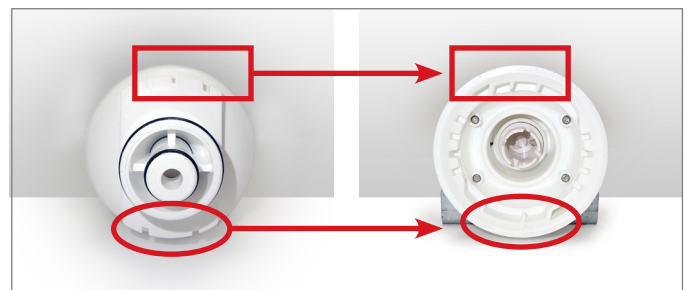

FIG. 4. Align the water filter's slots with the corresponding teeth in the filter head.
8. Insert the water filter and rotate the water filter clockwise. See figs. 4 and 5.